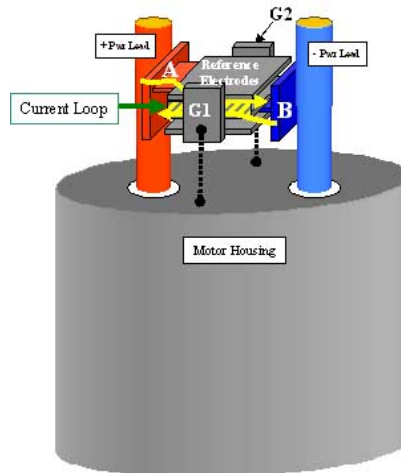

Figure 10. X2Y® further reduces loop area because the plates are only a dielectric apart. The result is maximum mutual inductance.
- ii. X2Y® can further reduce loop area when properly attached due to the internal structure (Figure 10). To guarantee maximum performance, inductance from the A/B terminal should be minimized, which means reducing the distance from the A/B terminal and the leads.